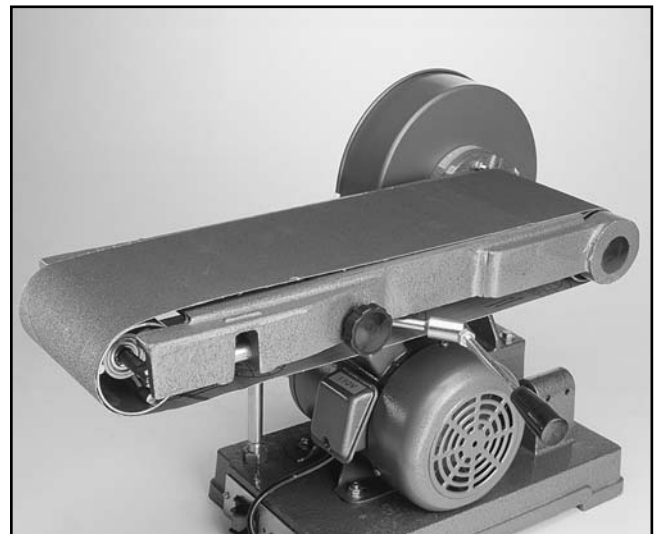

Figure 13.
1. To adjust the tracking, quickly turn the sander on and off. Observe the belt's behavior. If the belt moves to one side or the other, you will need to adjust the tracking knob. **Figure 13.**